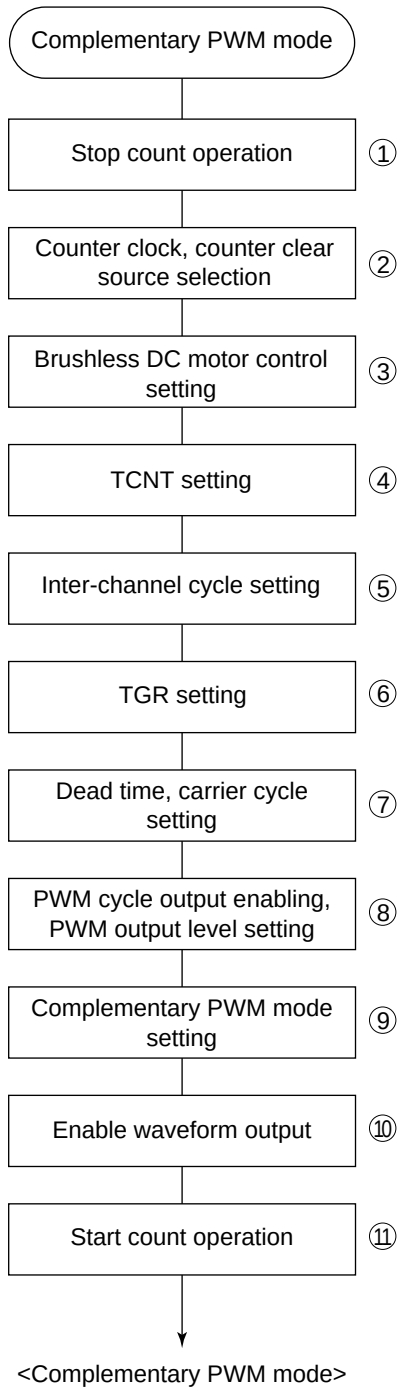

**Figure 12.38 Example of Complementary PWM Mode Setting Procedure**
**Example of Complementary PWM Mode Setting Procedure:** An example of the complementary PWM mode setting procedure is shown in figure 12.38.